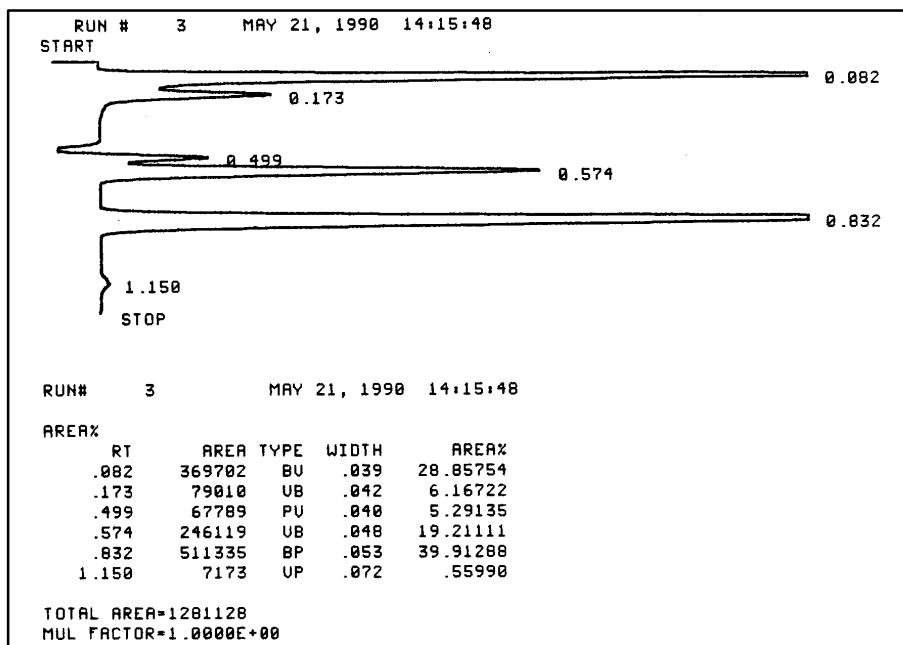

Figure 7-6. Example of Demo Chromatogram Test T
- (A) **Run All Tests**—Selecting test A will cause all the above tests to run consecutively.
- (T) **Enable Demo Chromatogram**—Selecting this test enables the demo chromatogram. The demo chromatogram is internally stored signal data that can be used to verify performance and as a training tool in conjunction with the “cookbook” section of the operating manual. Running the demo chromatogram and obtaining positive results verifies every subsystem in the unit, except the A/D. Figure 7-6 is an example of a demo chromatogram on a good unit.
4. Press the **[STOP]** key to end the chromatogram after the peak marked with a retention time of 1.150 has been plotted. The demo chromatogram should resemble figure 7-6.